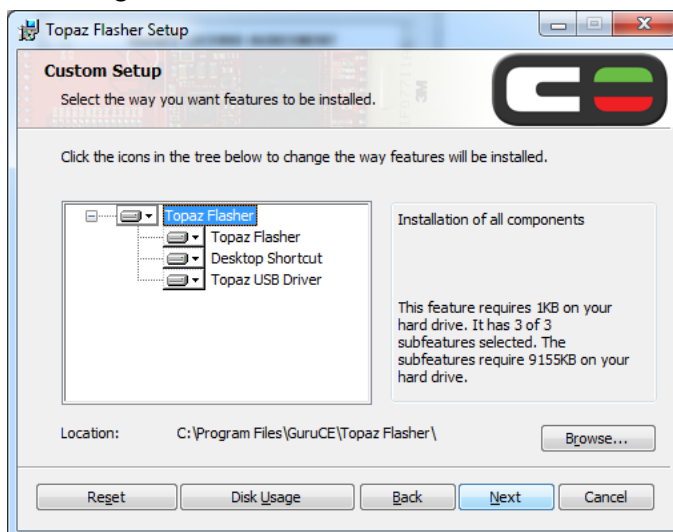

Figure 4 - Custom Setup
4. If this is the first time you connect a Topaz board to this particular USB port, the OS will notify you a new USB device is detected and it should install the correct Topaz i.MX25 driver automatically if you included the “Topaz USB Driver” component when installing the Topaz Flasher (see Figure 4 above).